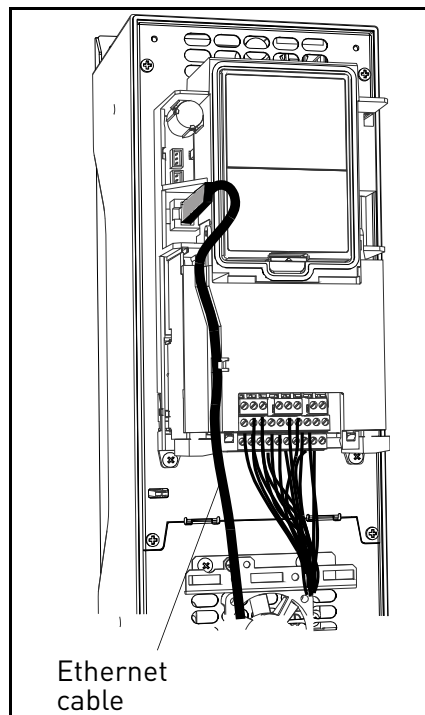

Figure 4.
- 3** Connect the Ethernet cable (see specification on page 8) to its terminal and run the cable through the conduit as shown in Figure 4.